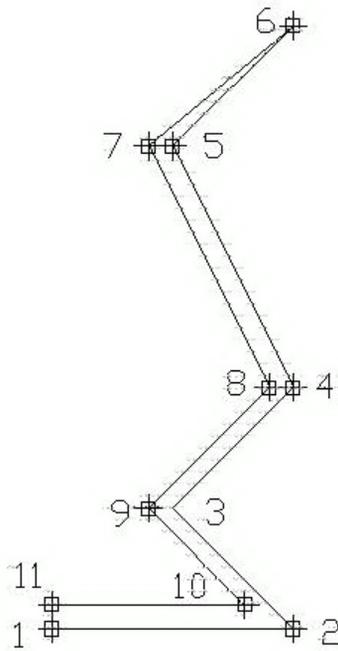

Figure 5-10 The profile curve of the Jug
6. Similarly, click at different points to create the profile of the jug, as shown in Figure 5-10. Note that the profile consists of nearly parallel segments. This will give the jug the required thickness when the **Lathe** modifier is applied to the shape.